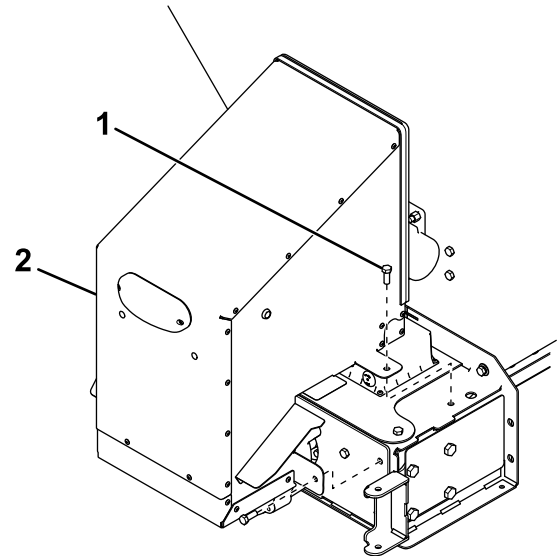

Figure 2
- For Forge 2.0 spreaders, remove the bolts securing the rear cover to the hopper (Figure 2).